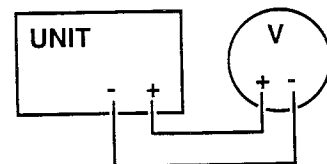

fig. 1
- 1 Connect a voltmeter to the output terminals (see fig. 1).